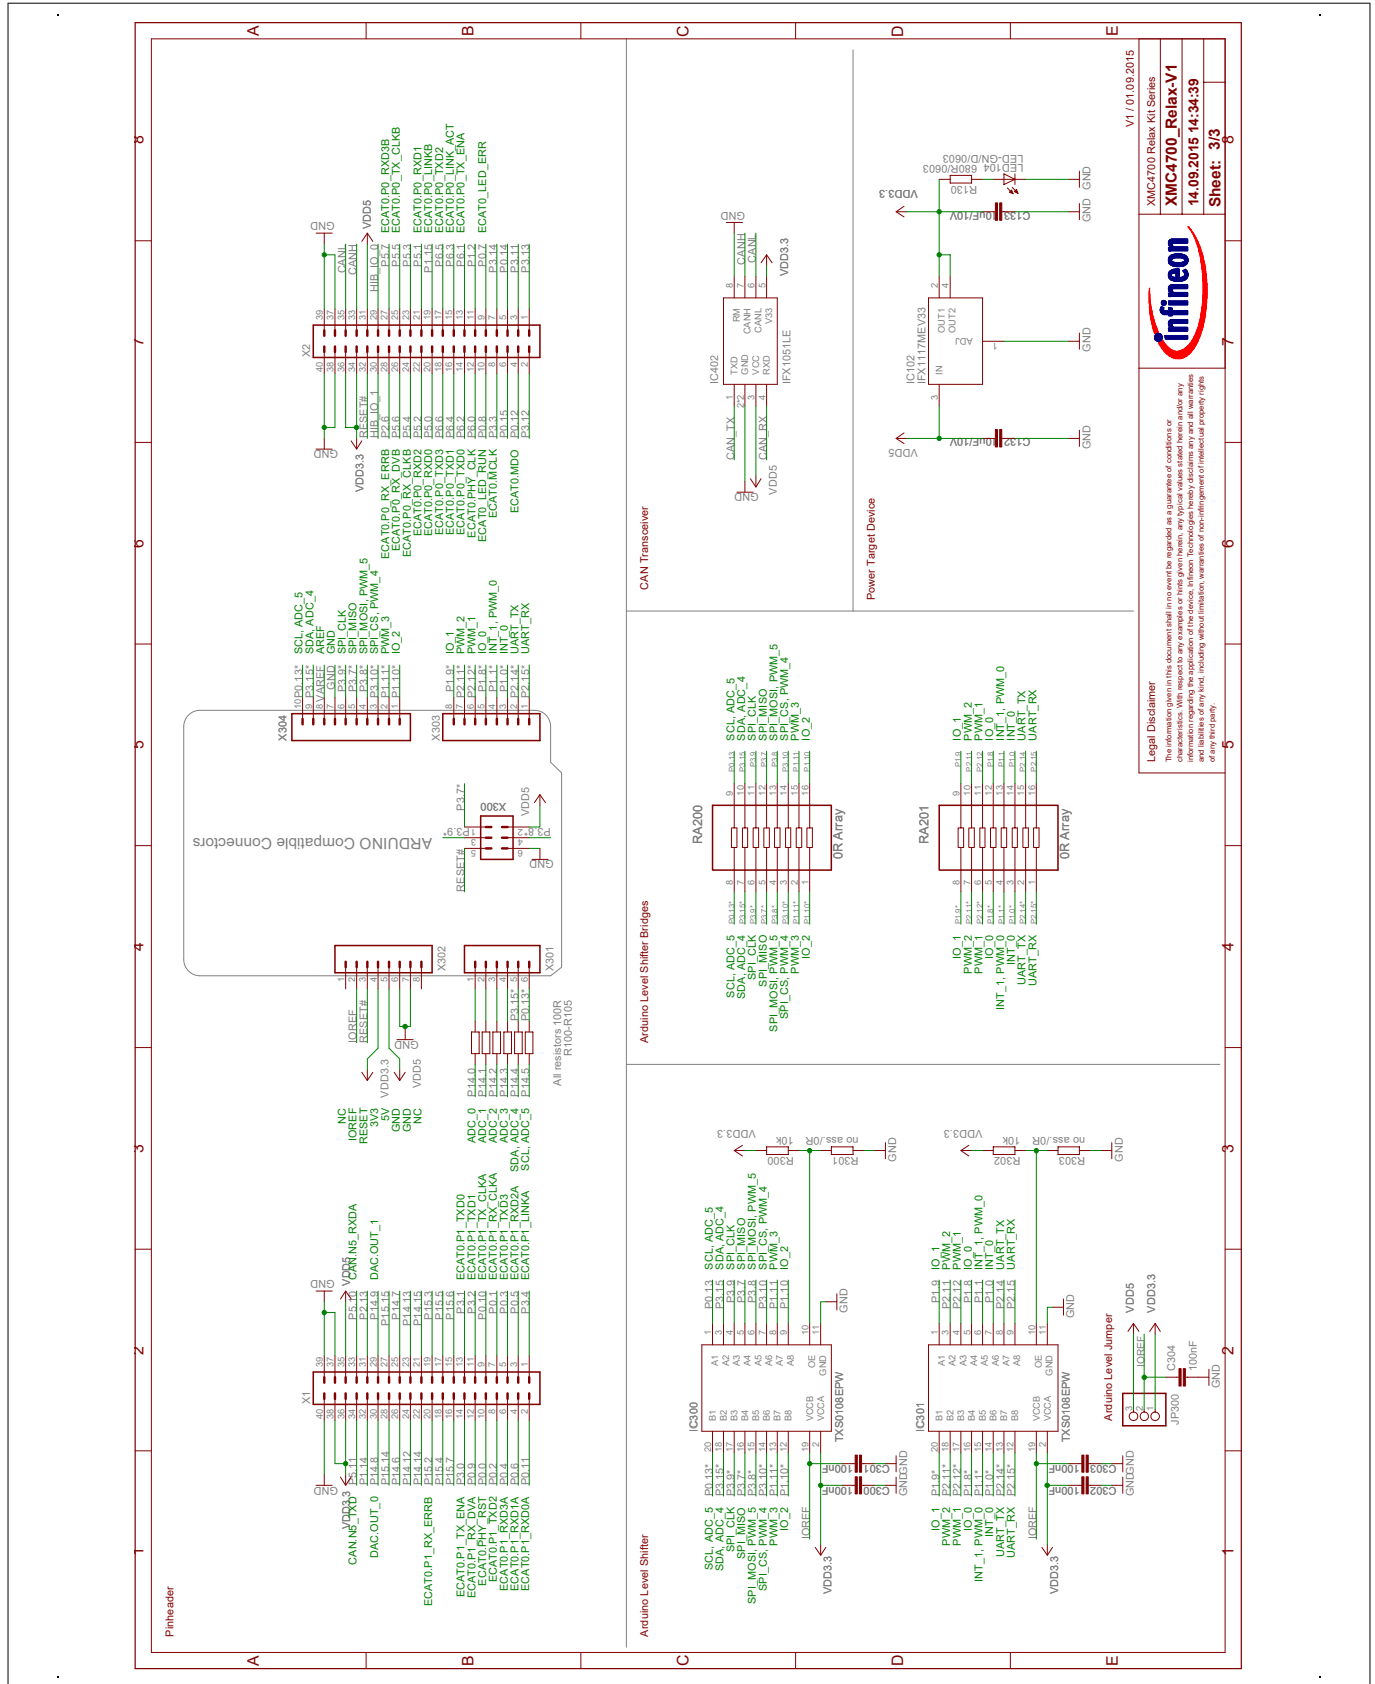

Figure 11 Relax Kit Schematic: Pin Header, Voltage Level Shifter, Power Supply, CAN transceiver
- Figure 11: Relax Kit Schematic: Pin Header, Voltage Level Shifter, Power Supply, CAN transceiver